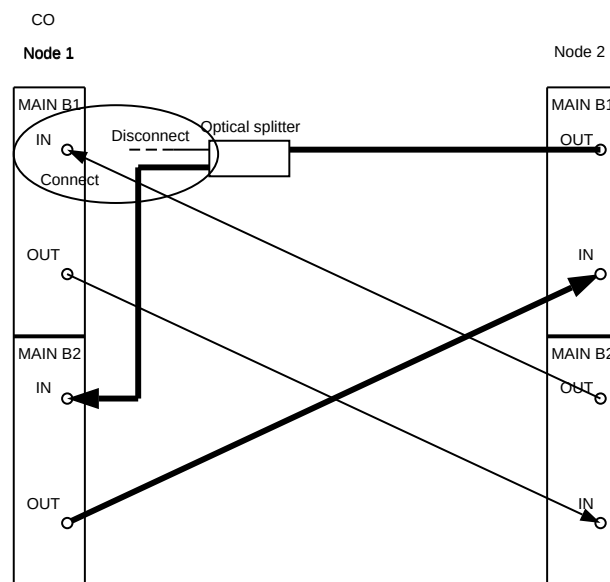

Figure 13. DDM-2000 OC-12 Point-to-Point Network to Ring Upgrade
19. At Node 1, remove optical splitter output from **MAIN-B-1 IN** and connect optical fiber from Node 2 **MAIN-B-2 OUT** to Node 1 **MAIN-B-1 IN**. (See Figure 13.)